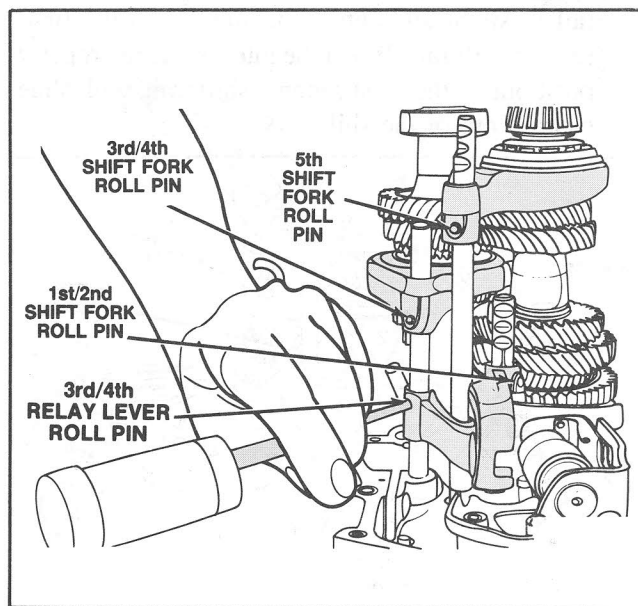

Figure 45 Roll Pin Removal
- first/second shift fork. (Figure 45).